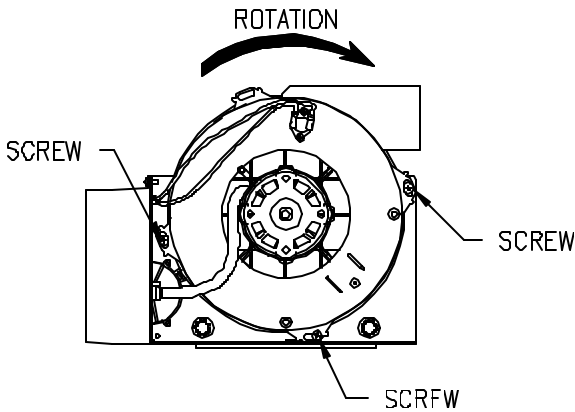

Figure 7
This water heater is a power vented appliance and is designed to vent its products of combustion through 2" (5.1 cm) or 3" (7.6 cm) diameter Schedule 40 (solid or cellular core) PVC pipe to the outdoors. The water heater may be either vented through the wall or vertically through the roof. Use a 3" (7.6 cm) to 2" (5.1 cm) reducer to connect to the vent outlet when using 3" (7.6 cm) PVC. Apply PVC cement at PVC locations. Table 7 lists the maximum vent lengths for this water heater using 2" (5.1 cm) PVC. If possible, locate the water heater so that the venting length and number of elbows are kept to the minimum distance necessary to reach the outside. If the installation requires venting lengths that exceed the lengths listed for 2" (5.1 cm) PVC in Table 7 then use 3" (7.6 cm) PVC for the vent connector. Table 8 lists the venting distances allowed with 3" (7.6 cm) diameter PVC pipe. When venting with 3" (7.6 cm) PVC, use a 3" (7.6 cm) to 2" (5.1 cm) reducer to exit through the building wall with 2" (5.1 cm) PVC. Use the 2" (5.1 cm) vent terminal supplied with the water heater to terminate on the outside of the building. If the length of the 2" (5.1 cm) needed to go through the wall is greater than 14" (35.6 cm), use 3" (7.6 cm) PVC to go through the wall and reduce to 2" (5.1 cm) PVC immediately after exiting the outside wall. Refer to the venting illustrations on the following pages. Make sure the vent pipe terminal is at least 1" (2.5 cm) away from the edge of the wall. **To vent horizontally with zero (0) elbows, remove 3 screws from blower housing and rotate the blower housing 90° clockwise (see Figure 7). Replace the three (3) screws once blower housing rotation is complete.**